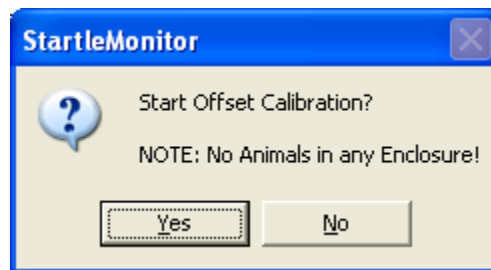

Figure 73 Start Offset Calibration Window
5. The following window (Figure 73) appears (only if the **Capture Weight** check box on the **Default Runtime Settings** screen is checked as described in Section 2.6.3):
Observe that the window of Figure 73 displays the message “NOTE: No Animals in any Enclosure!” What the System is doing at this